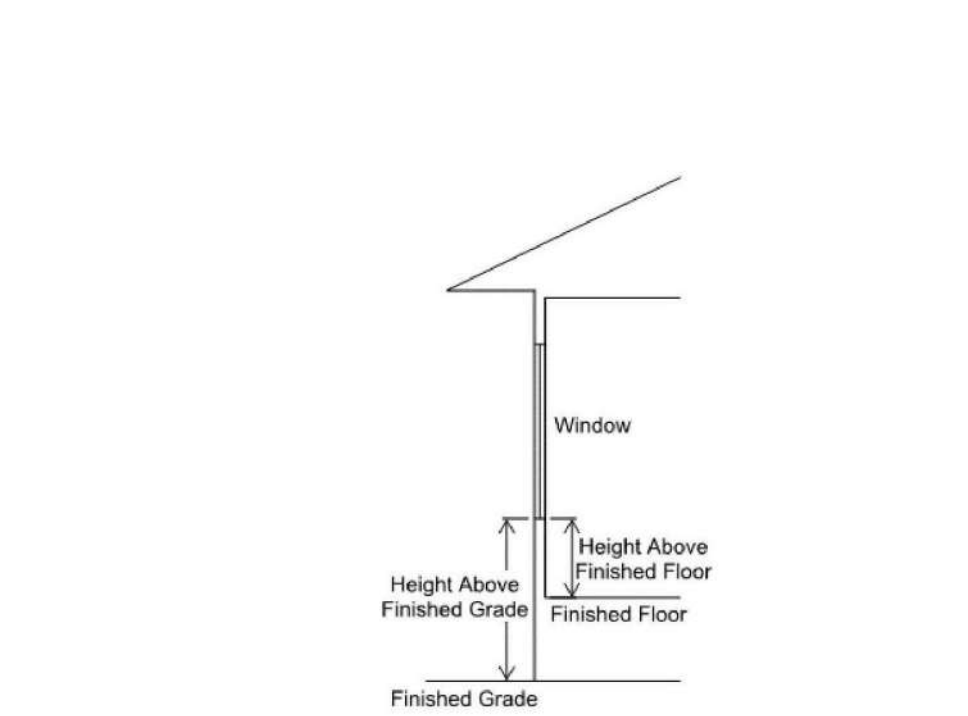

Figure 1: Sill height above finished grade on the exterior side of an operable window opening
- Where the sill height above finished grade on the exterior side of an operable window opening is greater than 72 inches, and the sill height above the finished floor on the interior side of the operable window opening is less than 24 inches (or 36 inches in dwelling units regulated by the IRC) (see Figure 1), then window fall protection shall be provided by one of the following (R312.2.1, R312.2.2; IRC 1015.8):
- Guards shall comply with IRC R312.1; refer to Figure 1 for major requirements.